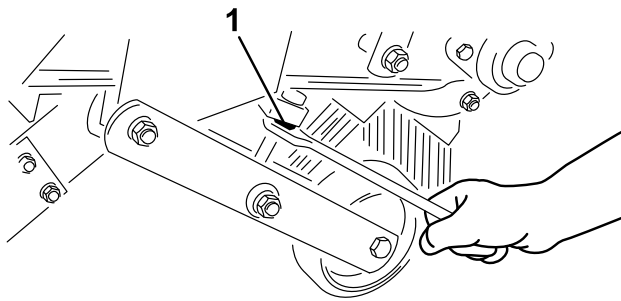

Figure 12
3. Turn the depth adjustment bolt until the rake slightly contacts the top of the turf grass. If a broom is installed, slight contact should be made with the surface. When the broom is operating, the contact width surface should be about 1 inch (25.4 mm) wide across the entire length of the broom (Figure 12).